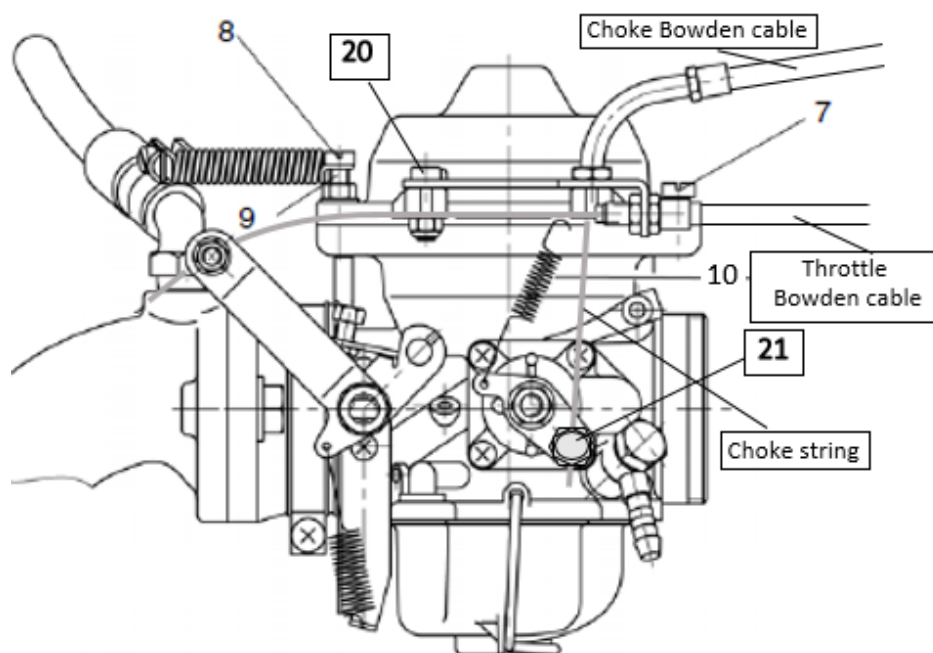

Fig. 0: Rotax 912 carburetor
6. Remove the oval head screw (20), see Fig. 0.
7. Loose the choke screw (21) and release the choke control string, see Fig. 0.
10. Screw and fix the oval head screw (20), see Fig. 0.
11. Install the choke control string and fix the choke screw (21), see Fig. 0.